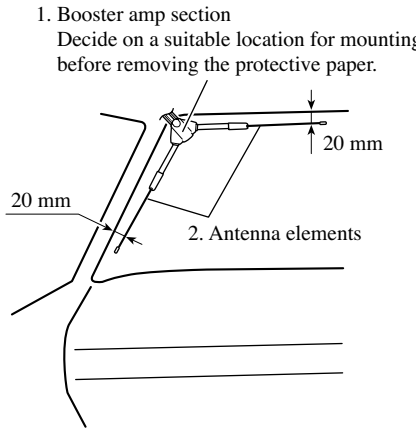

Fig. 7
1. Decide on the location for the main body. (Fig. 7)